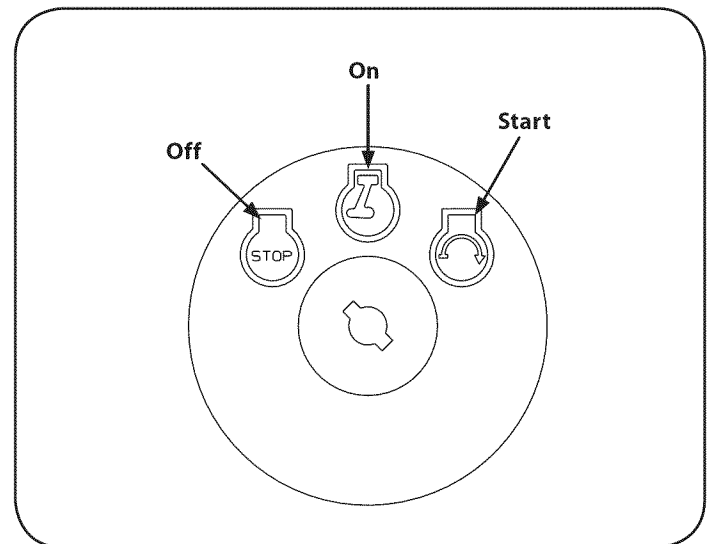

Figure 10
5. Turn the ignition key clockwise to the START position. After the engine starts, release the key. It will return to the ON (or Normal Mowing) position. See Figure 10.